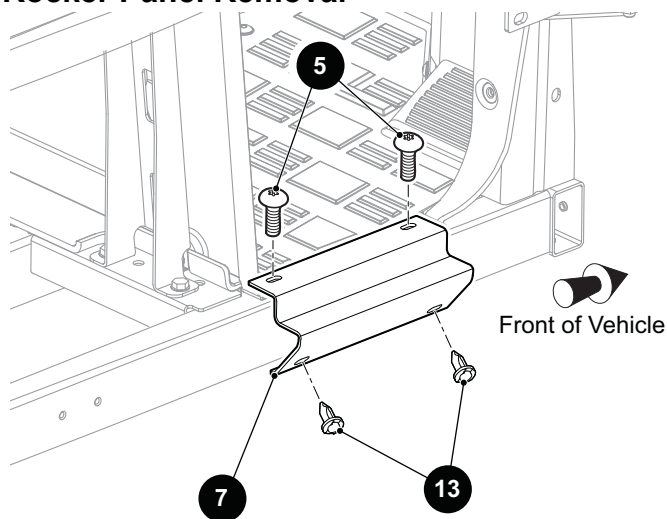

Fig. 6 Rocker Panel
1. Remove the two screws (5) that secure the rocker panel (7) to the frame (See Fig. 6).
2. Remove the two plastic rivets (13) that secure the rocker panel to the frame. Remove the rocker panel.